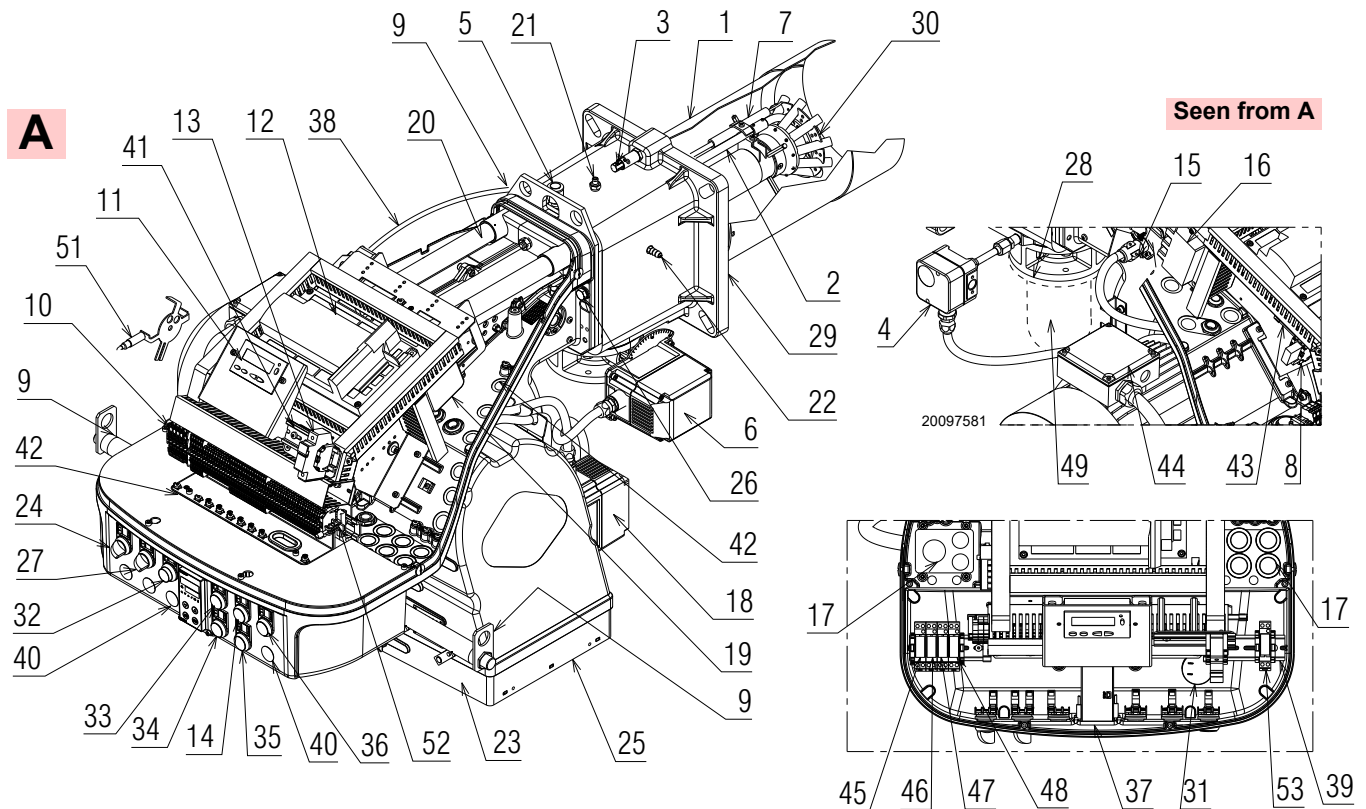

Fig. 5
- **Flame safeguard lock-out:** if the flame safeguard alarm 36)(Fig. 5) lights up, it indicates that the burner is in lock-out. To reset, press the reset pushbutton.
- **Fan motor trip:** release by pressing the pushbutton on thermal overload 8)(Fig. 5).